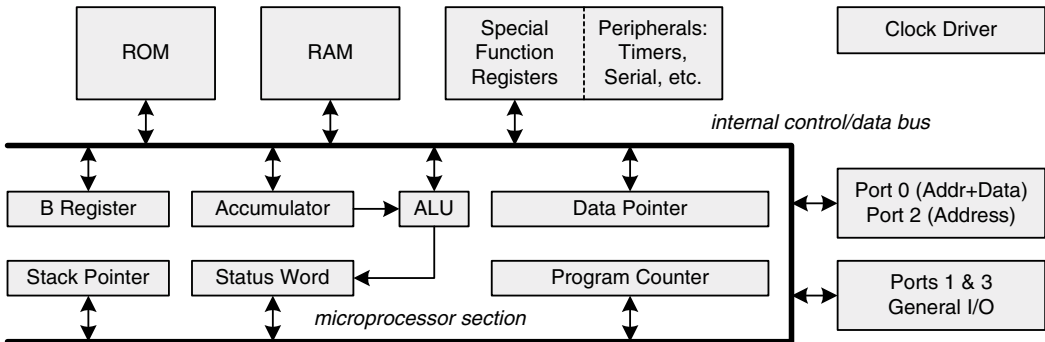

FIGURE 6.3 8051 overall architecture.
Motivated by the popularity of the 8048, Intel introduced the 8051 microcontroller in 1980, which is substantially more powerful and flexible. The 8051's basic architecture is shown in Fig. 6.3. It contains 128 bytes of RAM, 4 kB of ROM, two 16-bit timer/counters, and a serial port. Registers within the microprocessor are 8 bits wide except for the 16-bit data pointer (DPTR) and program counter (PC). Memory is divided into mutually exclusive program and data sections that each can be expanded up to 64 kB in size via an external bus. Expansion is accomplished by borrowing pins from two of the four 8-bit I/O ports. Intel manufactured several variants of the 8051. The 8052 doubled the amount of on-chip memory to 256 bytes of RAM and 8 kB of ROM and added a third timer. The 8031/8032 are 8051/8052 chips without on-board ROM. The 8751/8752 are 8051/8052 devices with EPROM instead of mask ROM. As time went by and the popularity of the 8051 family increased, other companies licensed the core architecture and developed many variants with differing mixes of memory and peripherals.